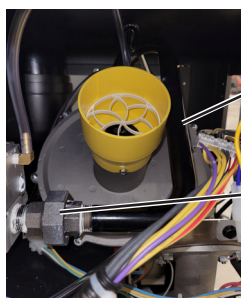

Figure 4.
7. **REPLACE GAS ORIFICE:** Use channel lock pliers to loosen the gas train at the gas orifice union (near the gas valve) and replace the **GAS ORIFICE**. Discard the old gas orifice. **Be sure that the O-ring is installed around the outside edge of the gas orifice, and the gas orifice is seated flush inside the union.** Tighten the union using channel lock pliers. See Figure 4 and 5.